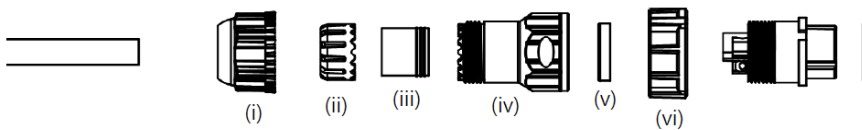

Figure 48: Insert Ethernet cord
1. Insert the Ethernet cord through each component – sealing nut (i), clip (ii), sealing (iii), sealing body (iv), gasket (v), and lock nut (vi) (Figure 48).